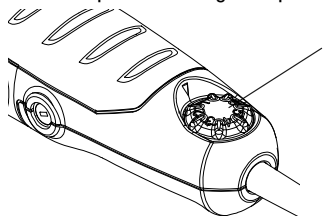

Figure 5
3. Place the corner edge of the saw blade (2) near the drywall in the middle of one of the cutting lines.
4. Set the speed to the highest speed. (Figure 5)
3. Set the speed control wheel between #5 and MAX. (Figure 5)
2. Set the speed control wheel to #4. (Figure 5)